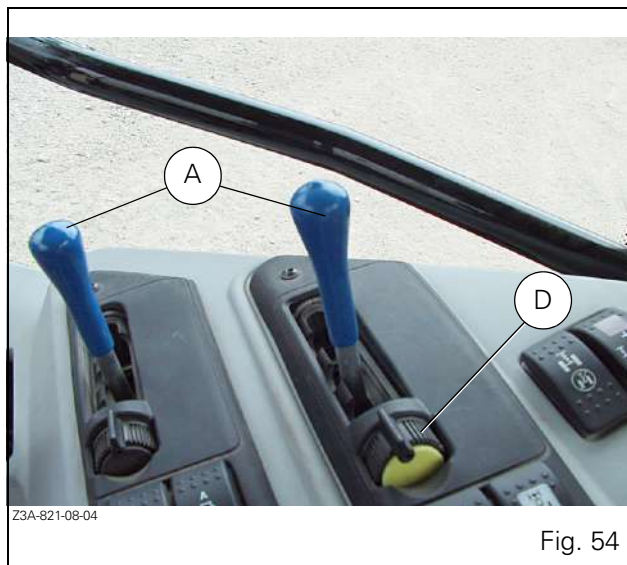

Fig. 54
4.15.6 - Using the control levers (Fig. 54)
- Neutral position (Fig. 54)